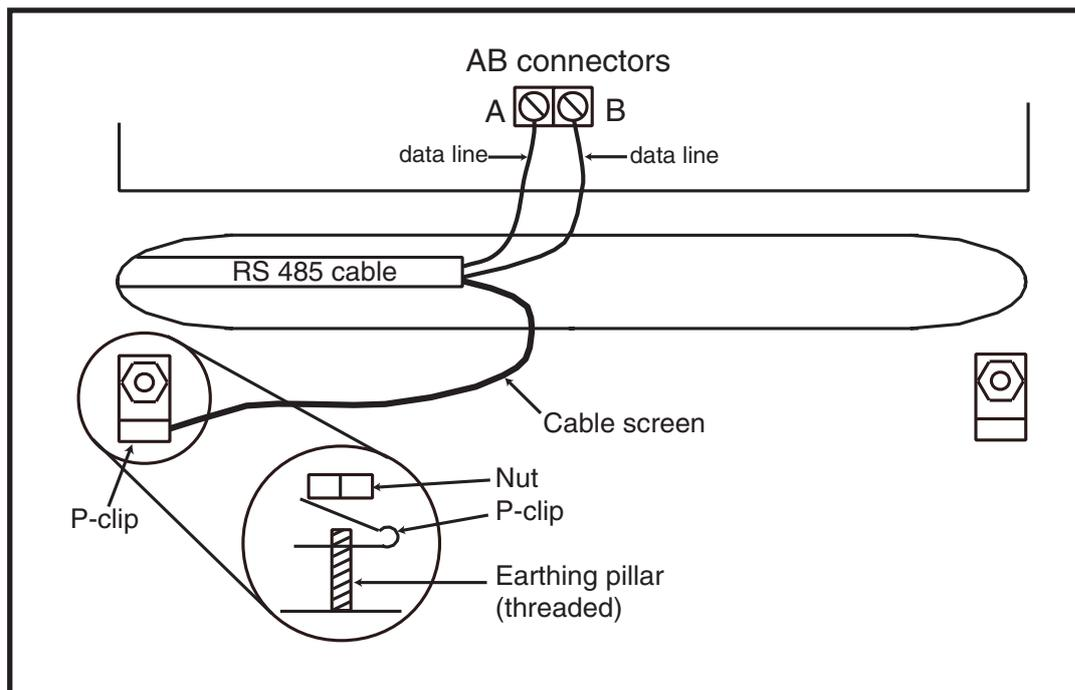

Figure 2-8. Connection of cable screen using P-Clip
- The cable used must be screened twisted pair (Part No **W002**) to connect the RS485 (AB) line. This would be CAT5 or Belden 8723 equivalent.
4. Shielded twisted pair cable, where used, is connected to the earthing pillar on the Galaxy control panel using the P-clip and nut supplied (refer to Figure 2-8).